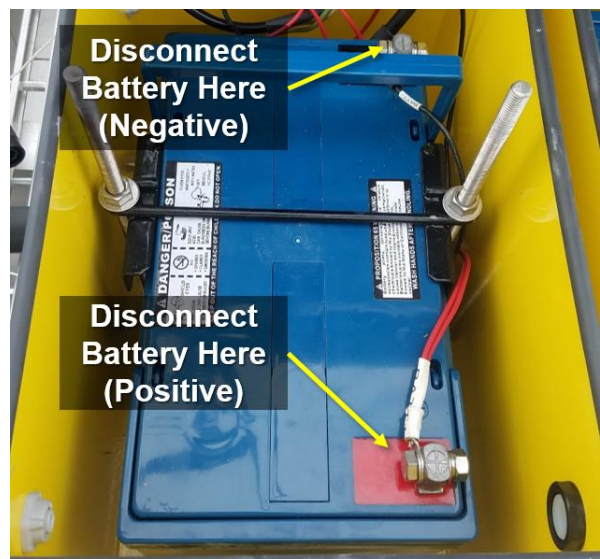

Figure 38. Disconnect the Batteries to Remove from the Battery Enclosure
- c. Disconnect the battery directly in the battery enclosure (see Figure 38). Disconnect the negative lead (black wire) first then disconnect the positive lead (red wire). Remove the bolt using a ½" open-end wrench to detach the batteries from the solar regulators. Do this for each battery (some sites use more than one). For Technician awareness, two protective yellow 8-amp fuses exist for each battery to prevent the battery from receiving an overabundance of electrical current.